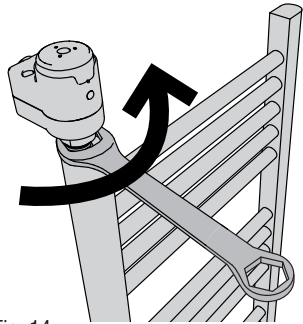

Fig. 14
3. Using a 27 mm spanner unscrew the ATLANTIS, rotating it anticlockwise until the ATLANTIS thread is completely off from towel rail ½" GAS female thread (Fig. 14).